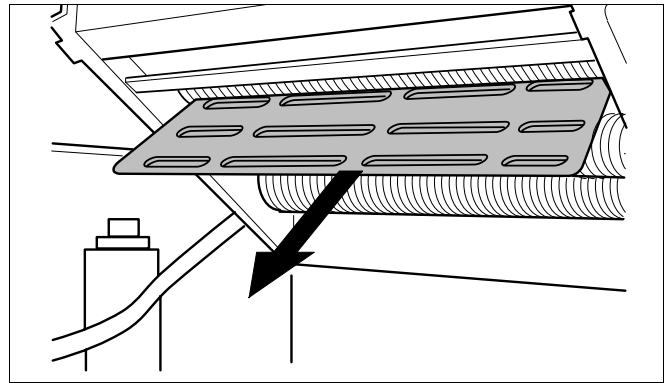

Fig. 46 Baffle plate
- Remove the baffle plate and clean it using compressed air (fig. 46).